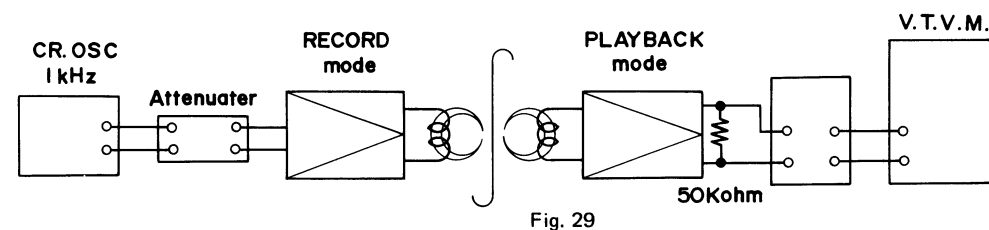

Fig. 29
11. MEASUREMENT OF S/N RATIO (Refer to Fig. 29)